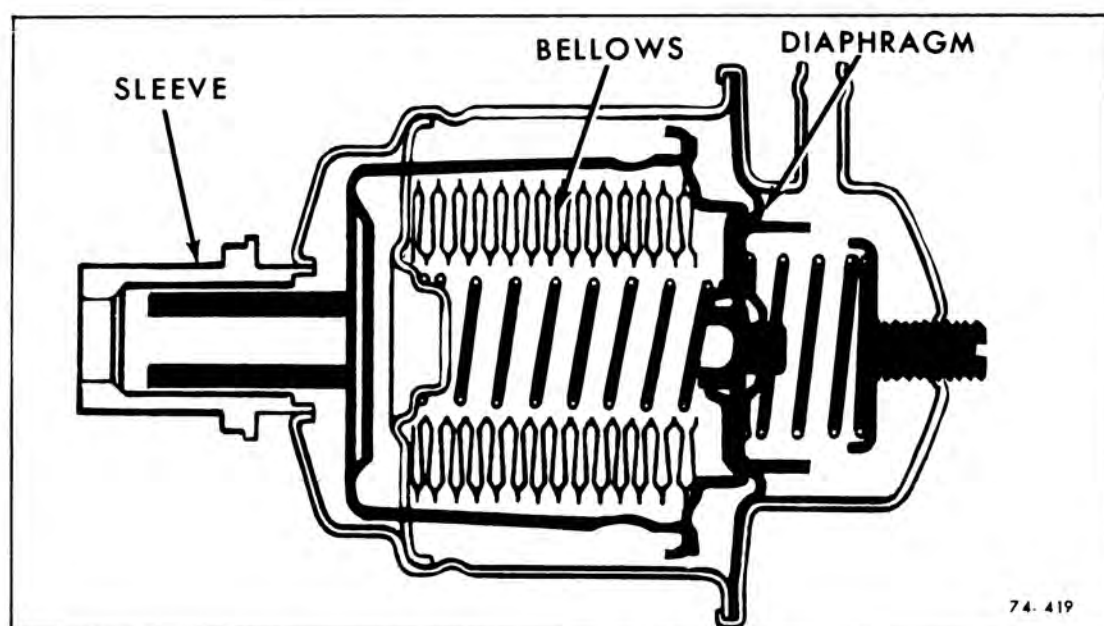

Figure 74-794—Vacuum Modulator Assembly
The vacuum modulator, see Figure 74-794, has three areas to be checked. If any one of the three (3) areas fail to pass the prescribed checks, the modulator must be replaced.